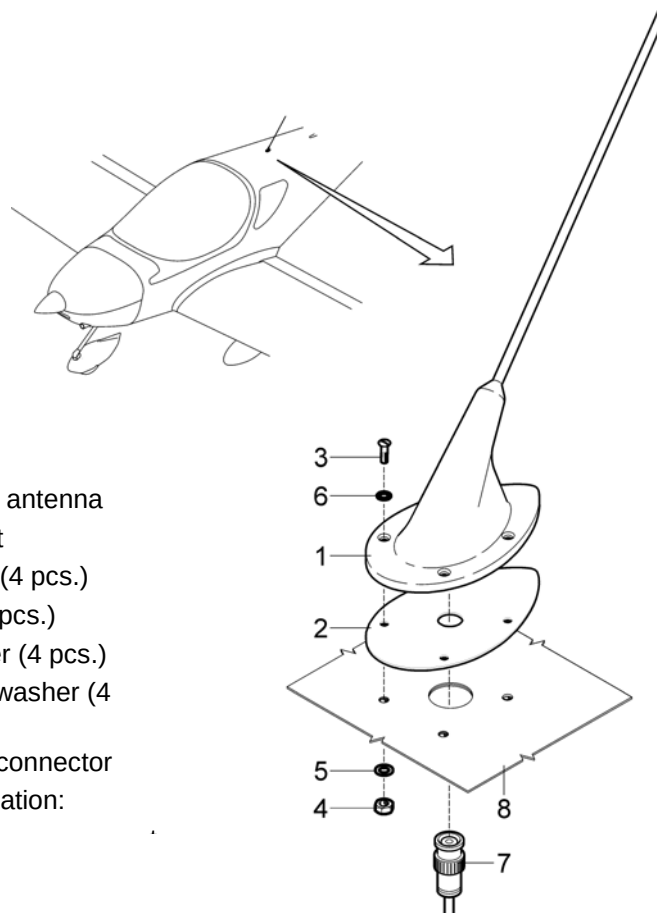

Fig. 12.3.21-1 COMM antenna removal / installation
- (b) Disconnect the connector (4, Fig. 12.3.21-1) from the antenna.
- (c) Remove the nuts (4) with the washers (5)
- (d) Remove the antenna (1) with the gasket (2), screws (3) and washers (6).
- (b) Place the antenna (1, Fig. 12.3.21-1) with the gasket (2) on the fuselage (8).
- (c) Insert the screws (3) with washers (6) to the holes in the antenna body (1); install the washers (5), screw and tighten the nuts (4).
- (d) Connect the connector (7) to the antenna (1).